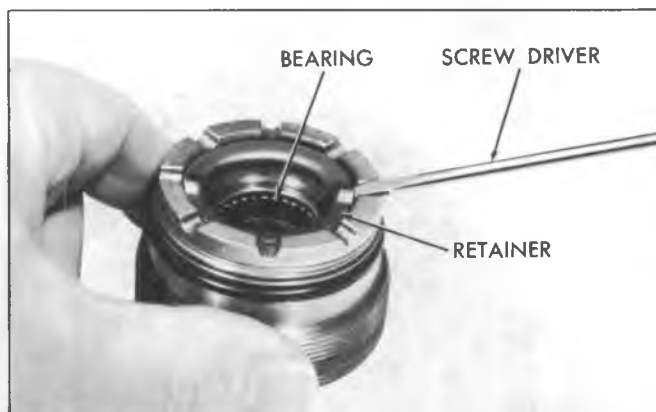

Fig. 22--Removing Thrust Bearing Retainer
3. If the thrust bearing ONLY is to be removed, pry the thrust bearing retainer at the two raised areas with a small screw driver (fig. 22). Remove the retainer, spacer, thrust bearing races and thrust bearing. Discard the bearing retainer.